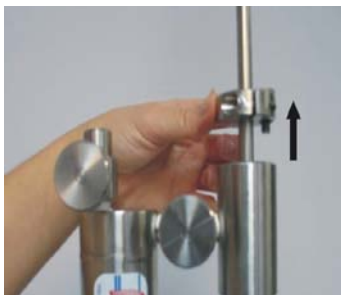

Figure 4
- 2.5.3 Loosen the lock collar screw in order to remove the lock collar from the top cap (see Figure 4). At this point, the shaft will remain inside the pipeline.